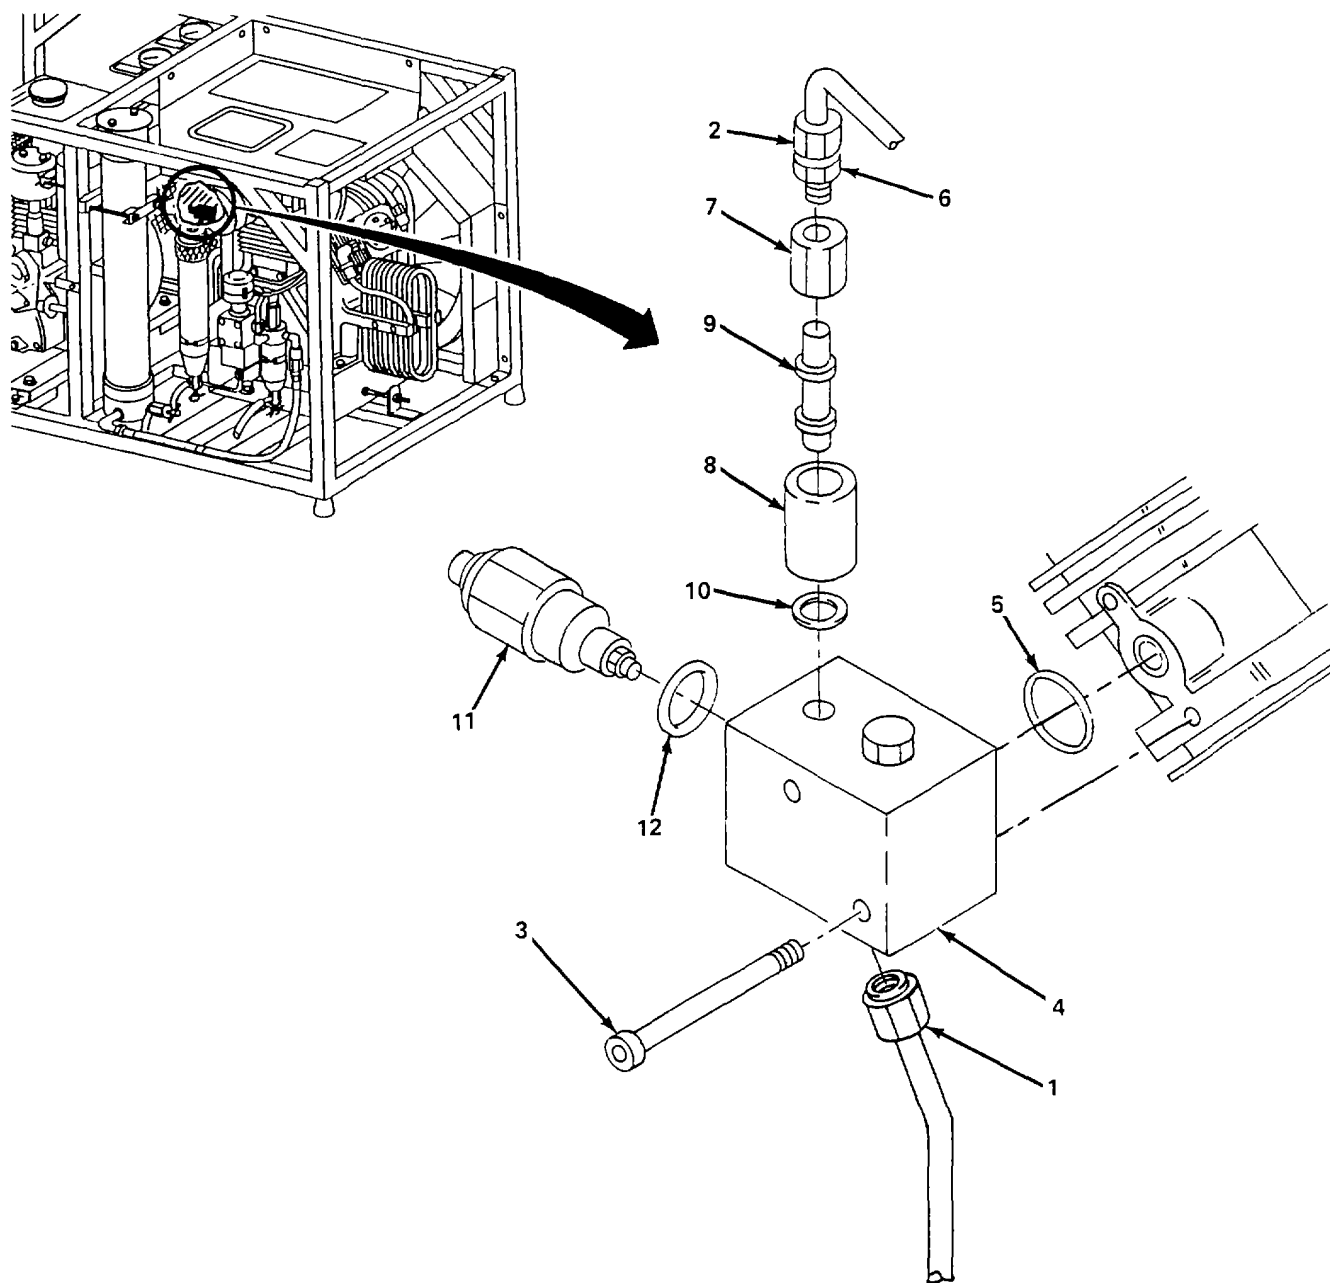

Figure 5-25. Oil Pressure Regulator, Replace.
a. Replace. (figure 5-25)
- (1) Loosen connector nut (1).
- (2) Loosen connector nut (2).
- (3) Remove two bolts (3), pressure regulator (4), and preformed packing (5). Discard preformed packing (5).
- (4) Remove coupling (6).
- (5) Remove fitting (7), sight glass (8), two preformed packings (9), and washer (10). Discard preformed packings (9).
- (6) Remove oil relief valve (11) and preformed packing (12). Discard preformed packing (12).
- (7) Install oil relief valve (11) and new preformed packing (12).
- (8) Install washer (10), two new preformed packings (9), and sight glass (8) on fitting (7).
- (9) Install fitting (7).
- (10) Install coupling (6).